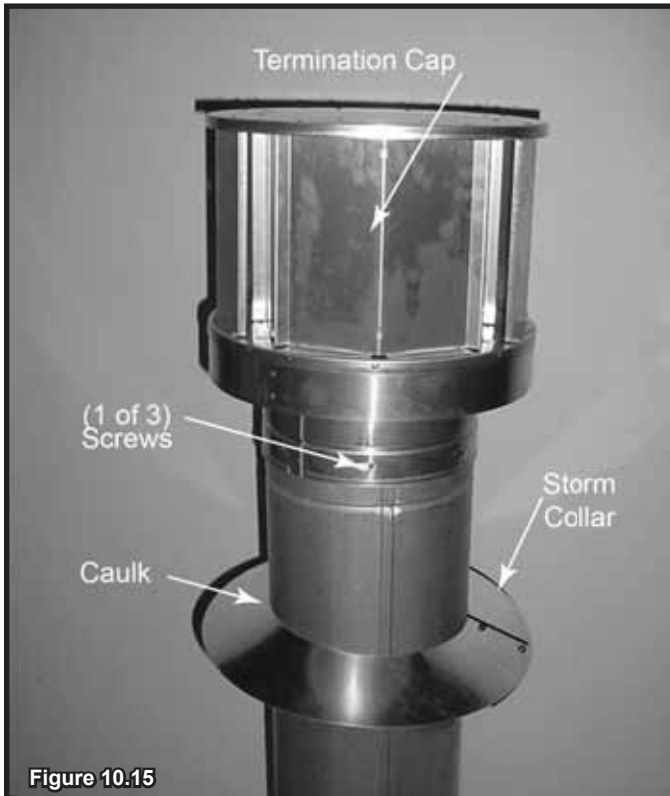

Figure 10.13 Assembling the Storm Collar Around the Pipe
- Slide the assembled storm collar down the pipe section until it rests on the roof flashing. See Figure 10.13.